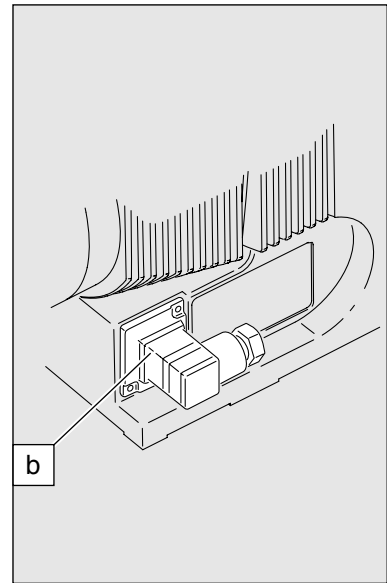

Fig. 16
- ▶ Insert the relay cable plug seal into the relay cover and screw on the plug (see fig. 16)